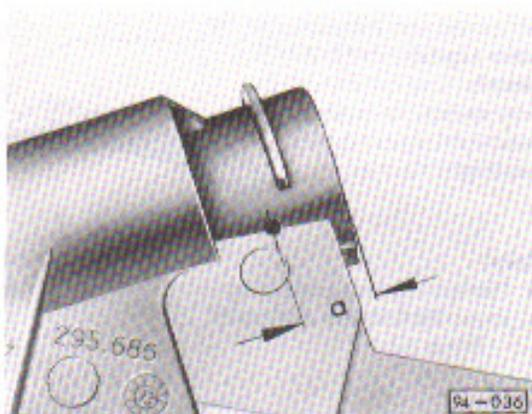

Fig. 1 Steering column lock housing (11.75 up to 9.79)
- Carefully drill (3 mm diam.) the steering column lock switch housing - Figs. 1, 2.